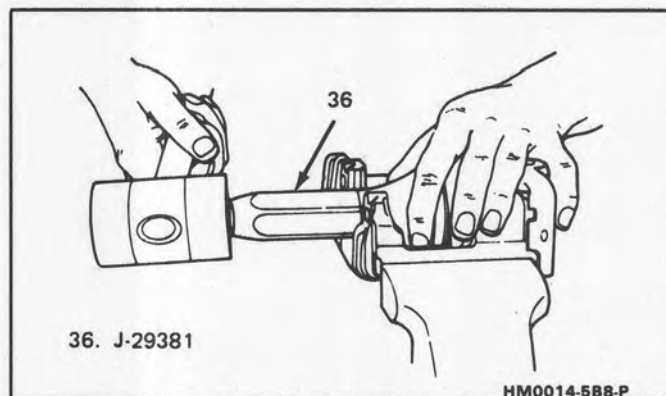

Fig. 14 Seating Boot into Housing
13. Seat boot (15) in caliper housing (25) counterbore using J 29381 (36) (Figure 14).